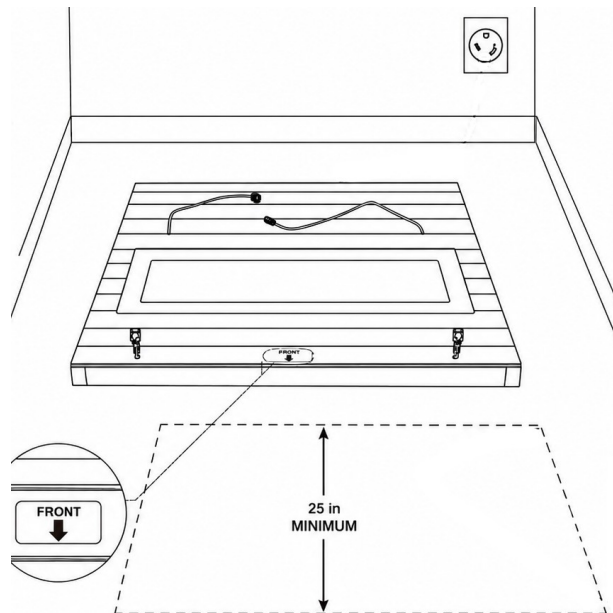

Figure 4. Floor Panel in position, with the FRONT sticker facing the 25 in door clearance and the receptacle on the wall behind the sauna.
- Identify the front and rear of the Floor Panel using the stickers on it. The front faces your 25 in door clearance (Figure 4).
- Confirm the receptacle is within reach of the 9.5 ft power cord, which exits the top center of the Back Panel (B) and runs down the back of the sauna, as described in Section 03.